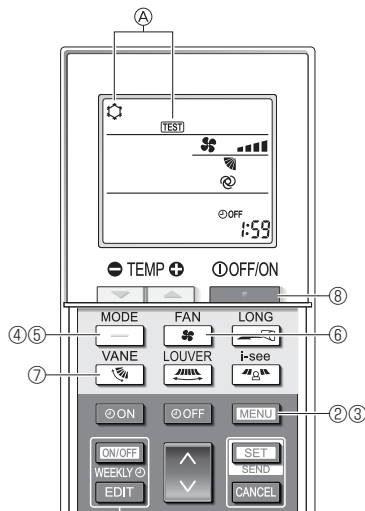

Fig. 8-5
- ① Turn on the power to the unit at least 12 hours before the test run.
- ② Press the **[MENU]** button for 5 seconds. (Fig. 8-5)
- ③ Press the **[MENU]** button.
④ **[TEST]** and the current operation mode are displayed. (Fig. 8-5)
- ④ Press the **[]** button to activate cool mode, then check whether cool air is blown out from the unit.
- ⑤ Press the **[]** button to activate heat mode, then check whether warm air is blown out from the unit.
- ⑥ Press the **[]** button and check whether the fan speed changes.
- ⑦ Press the **[]** button and check whether the auto vane operates properly.
- ⑧ Press the **[]** button to stop the test run.